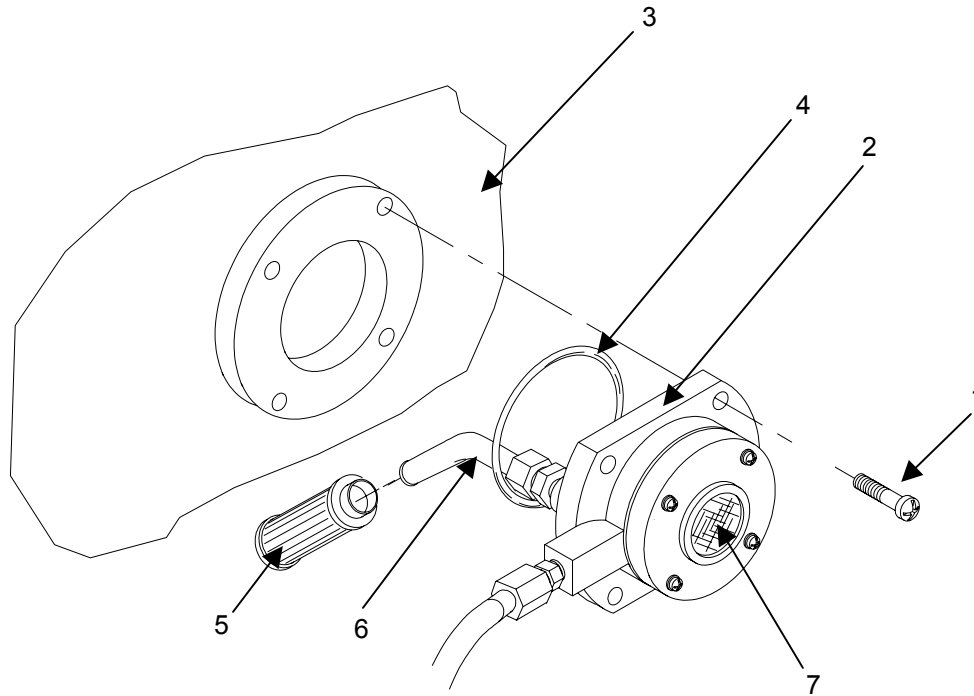

Figure 1. Replace the Pickup Fuel Filter
1. Remove four screws (**figure 1, item 1**) holding fuel regulator assembly (**figure 1, item 2**) to tank (**figure 1, item 3**).
2. Remove fuel regulator assembly (**figure 1, item 2**) from tank (**figure 1, item 3**) as shown.
3. Discard O-ring (**figure 1, item 4**).
4. Pull fuel filter (**figure 1, item 5**) off the regulator shaft (**figure 1, item 6**).
5. Install new fuel filter (**figure 1, item 5**) onto regulator shaft (**figure 1, item 6**).
6. Lubricate new O-ring (**figure 1, item 4**) with clean fuel, and install new O-ring.
7. Check the fuel regulator air vent (**figure 1, item 7**) for dirt or debris and clean with a small soft-bristle brush. Do not use any tool that will force the debris into the filter surface or damage it in any way.
8. Re-install fuel regulator assembly (**figure 1, item 2**) into tank (**figure 1, item 3**) and secure with four screws (**figure 1, item 1**).